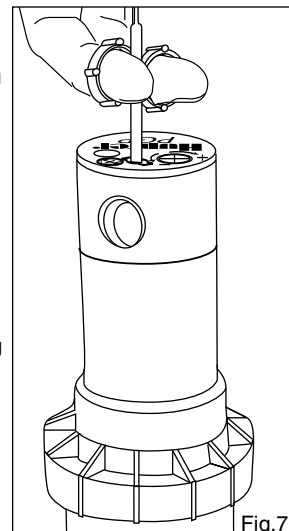

Fig. 7
1. Insert the plastic key end of the Hunter wrench into the lifting socket of the sprinkler and turn 90°. Pull the riser up to gain access to the nozzle socket (Fig. 7).